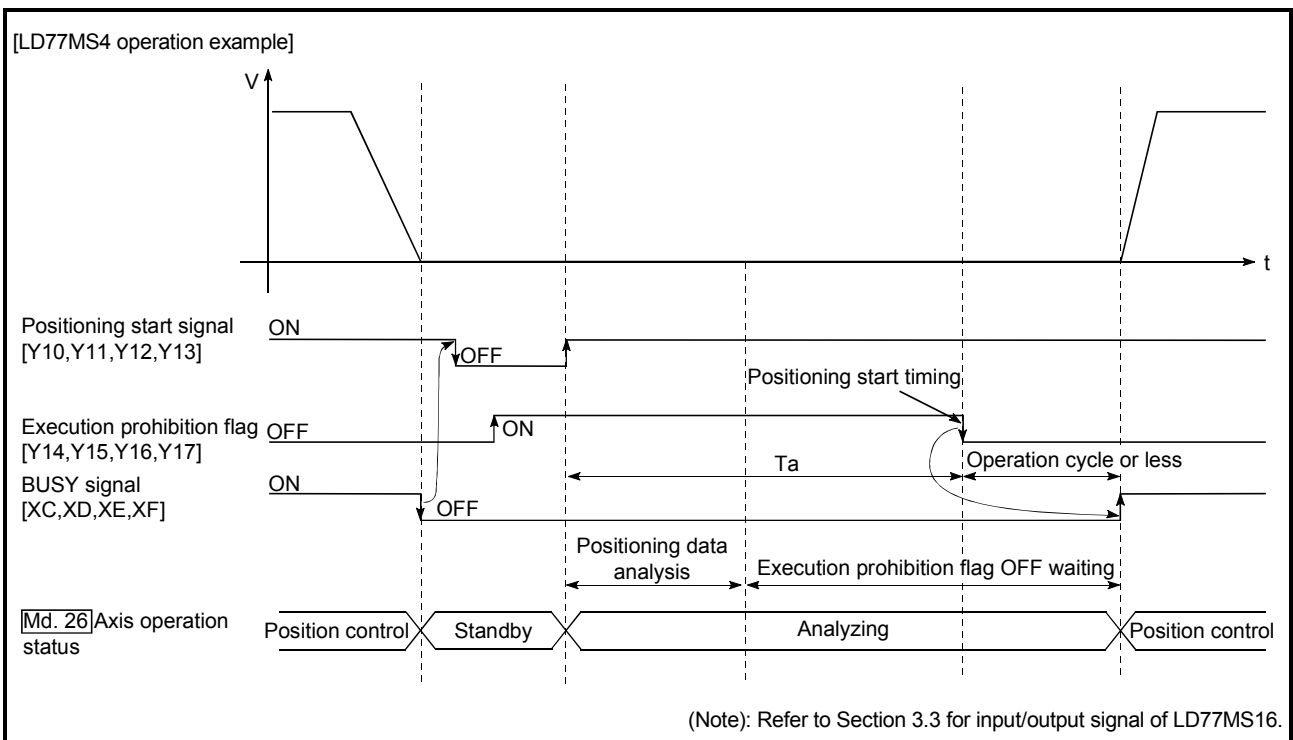

Fig. 13.46 Operations of pre-reading start function
The pre-reading start function is performed by turning ON the positioning start signal with the execution prohibition flag ON, or by executing the dedicated instruction (ZP.PSTR1, ZP.PSTR2, ZP.PSTR3, and ZP.PSTR4). However, if positioning is started with the execution prohibition flag ON, the positioning data is analyzed but servo start is not provided. While the execution prohibition flag is ON, "[Md.26] Axis operation status" remains unchanged from "5: Analyzing". The servo starts within operation cycle after the execution prohibition flag has turned OFF, and "[Md.26] Axis operation status" changes to the status (e.g. position control, speed control) that matches the control method. (Refer to Fig.13.46)
- (1) The time required to analyze the positioning data is up to 0.88ms (LD77MS2/LD77MS4)/3.55ms(LD77MS16).
- (2) After positioning data analysis, the system is put in an execution prohibition flag OFF waiting status. Any change made to the positioning data in the execution prohibition flag OFF waiting status is not reflected on the positioning data. Change the positioning data before turning ON the positioning start signal.
- (3) The pre-reading start function is invalid if the execution prohibition flag is turned OFF between when the positioning start signal has turned ON and when positioning data analysis is completed ($T_a < \text{start time}$, T_a : Refer to Fig. 13.46).
- (4) The data No. which can be executed positioning start using "[Cd.3] Positioning start No." with the pre-reading start function are No. 1 to 600 only. Performing the pre-reading start function at the setting of No. 7000 to 7004 or 9001 to 9004 will result in the error "Outside start No. range" (error code: 543).
- (5) Always turn ON the execution prohibition flag at the same time or before turning ON the positioning start signal. Pre-reading may not be started if the execution prohibition flag is turned ON during T_a after the positioning start signal is turned ON. The pre-reading start function is invalid if the execution prohibition flag is turned ON after positioning start with the execution prohibition flag OFF. (It is made valid at the next positioning start.)